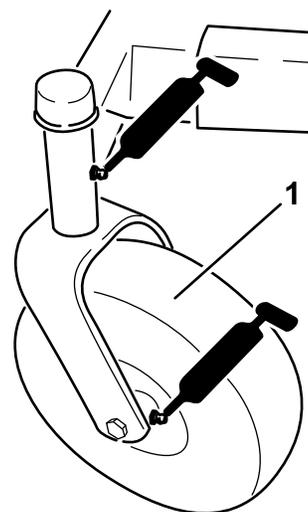
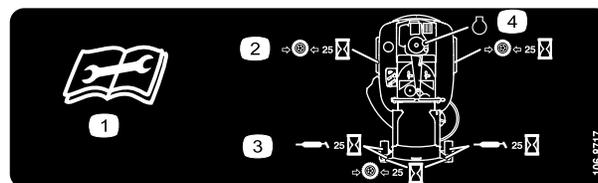

Figure 23
Figure 24
3. Clean the grease fittings (Figure 23 and Figure 24) with a rag. Make sure to scrape any paint off of the front of the fitting(s).